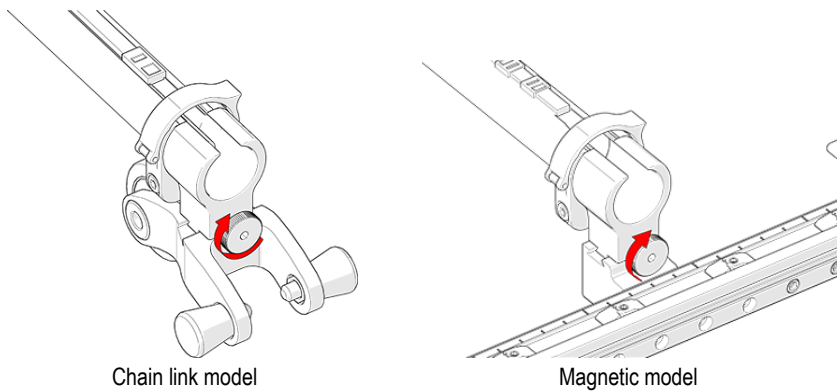

Figure 3-51 Tighten knob
2. Once centered on the dovetail link, tighten the zipper tube's dovetail mount knob (see Figure 3-51 on page 73).